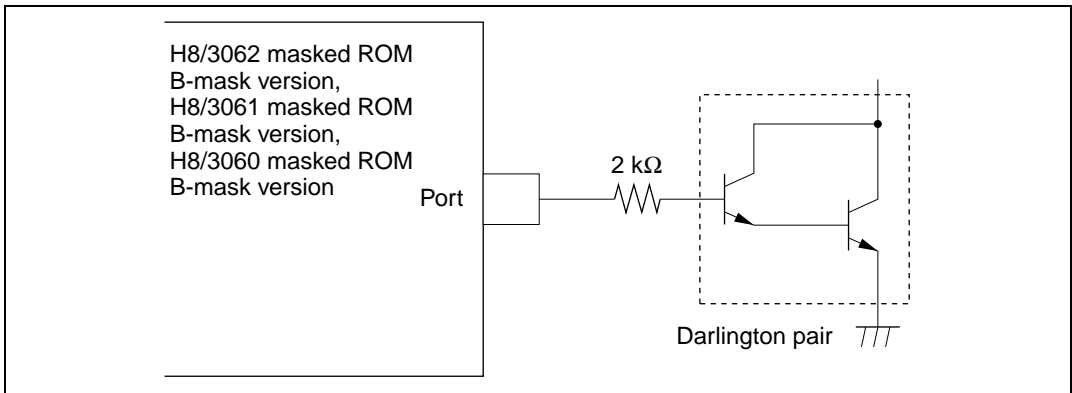

Figure 22.16 Darlington Pair Drive Circuit (Example)
2. When directly driving a darlington pair or LED, always insert a current-limiting resistor in the output line, as shown in figures 22.16 and 22.17.